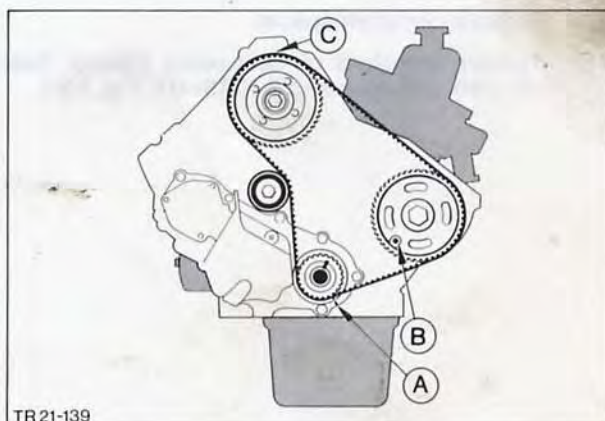

Fig. 130. Toothed belt pulley markings
8. Rotate engine until crankshaft, camshaft and injection pump gear markings are aligned on timing cover mark, Fig. 130.